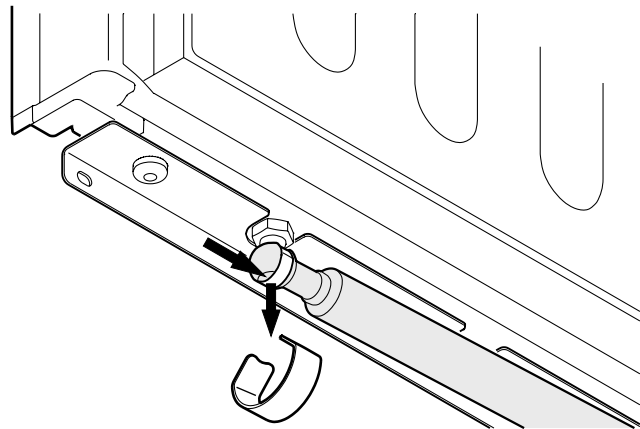

Figure 24
8. Stick a small screwdriver under the retaining clamp and lever out. **Figure 24**.